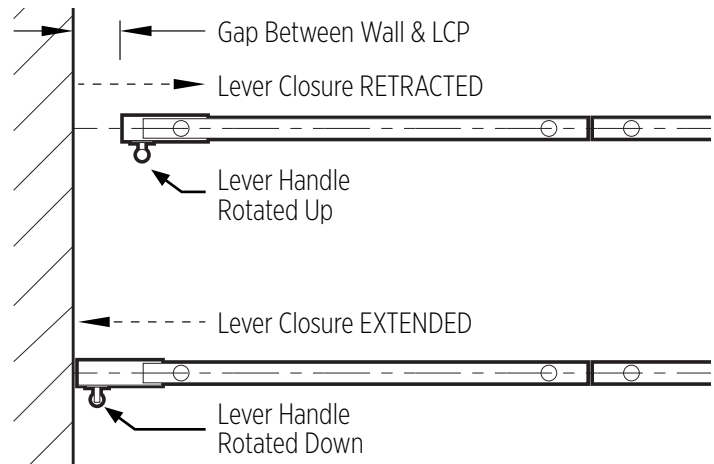

Fig. 6
5. If the last panel is a Lever Closure Panel (Fig. 6) – to set the panel and seal the opening: